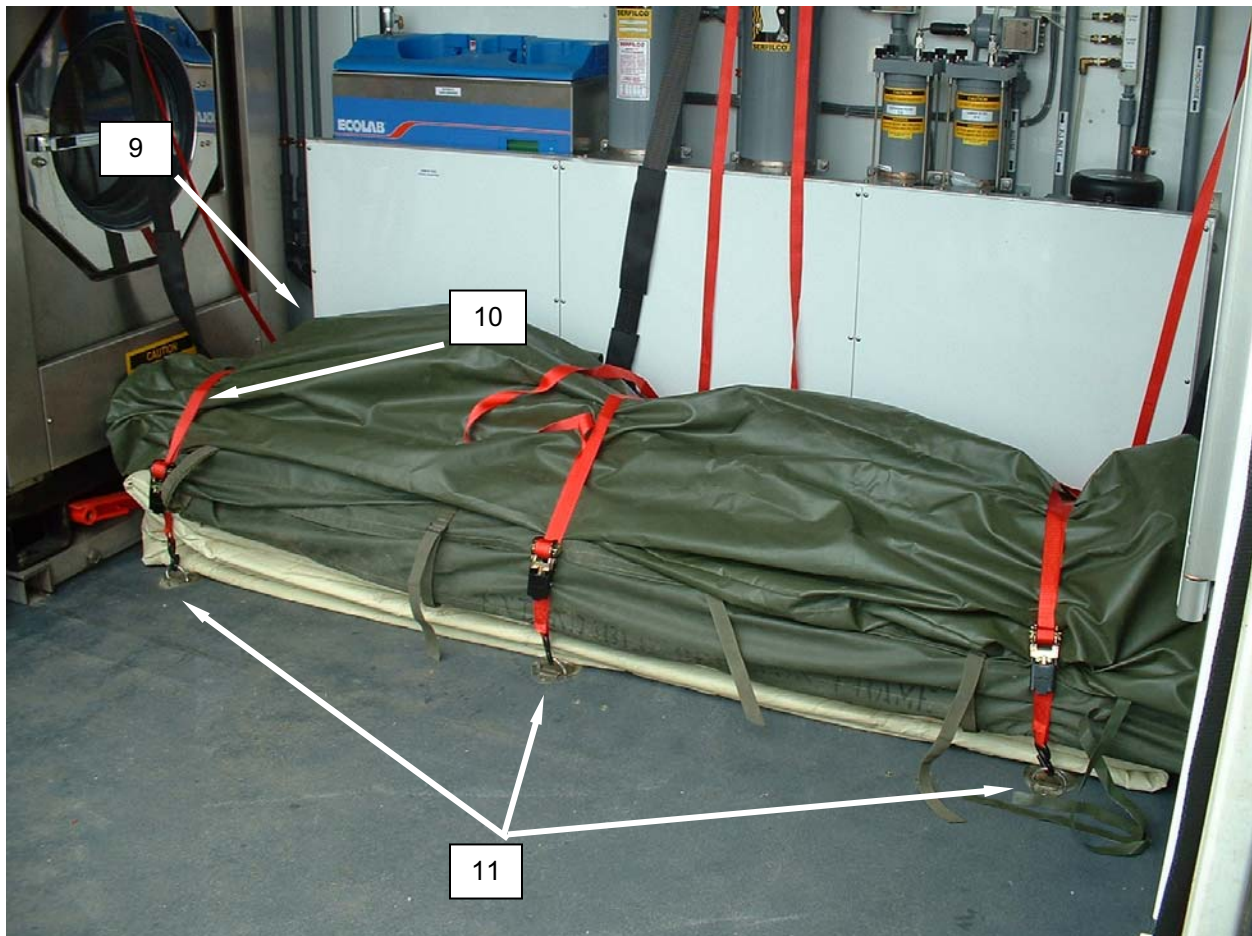

Figure 10. Securing with Straps.
14. Place the remaining TEMPER frame section bag (purlins) (**Figure 10, Item 9**) and vestibule bag atop the larger frame section bag, extending into the lint compartment of dryer No. 1.
15. Wrap the three 1-in. straps (**Figure 10, Item 10**) over the packed TEMPER components and attach to the center D-rings (**Figure 10, Item 11**). Tighten straps so there is no movement of the packed TEMPER components. Straps may require retightening as the packed floor sections compress.